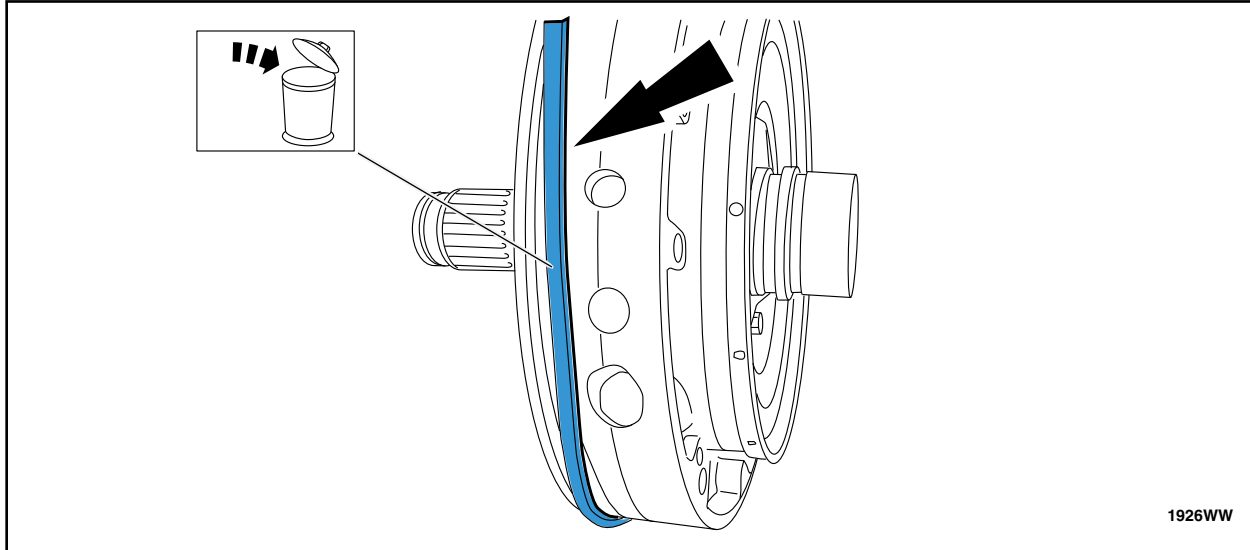

FIGURE 41
38. Remove and discard the front pump outer diameter square-cut pump seal. See Figure 41.